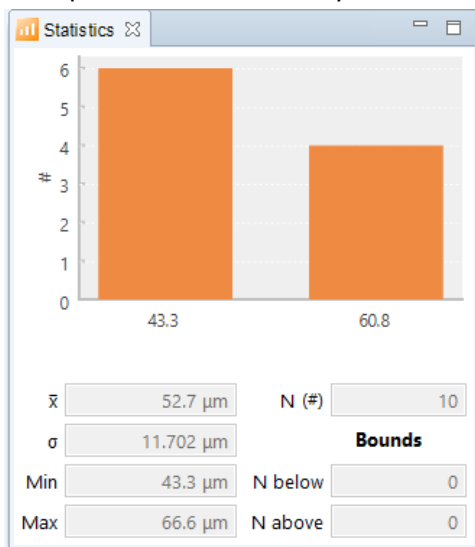

Figure 22 Statistical information of currently selected data block.
The Statistics area (4) of the main view of coatmaster Operating System (Figure 16) contains detailed statistical information on the measurement data in the currently selected block. Figure 22 shows an example of a statistical analysis from block data.